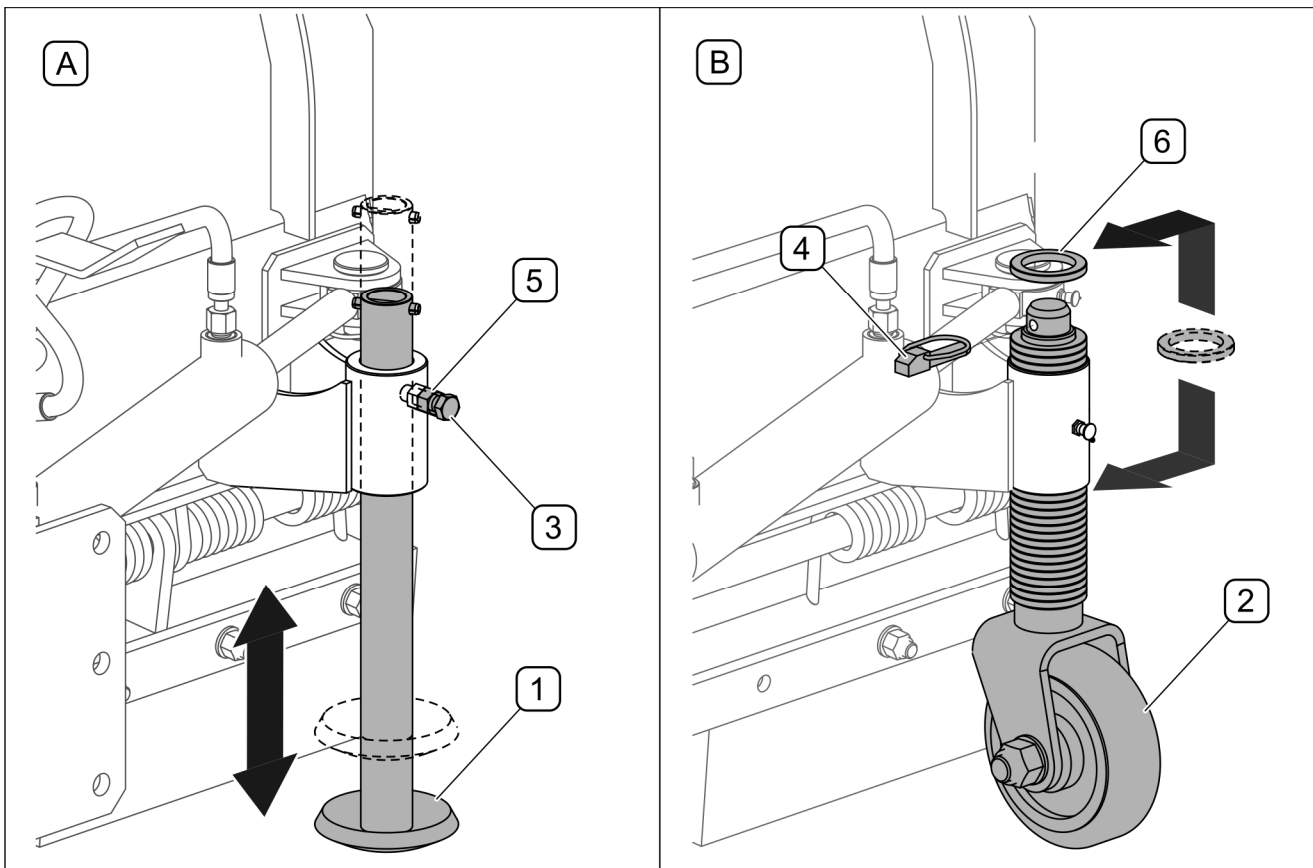

FIGURE 4.9 Working height adjustment
In the snowploughs equipped with slides (A), the working height adjustment (FIGURE 4.9) is performed by unlocking nut (5) and bolt (3) and proper extension or withdrawal of slide (1) in guide. The right and left slide should be extended to the same height. Adjustment of the left and right slide is carried out in the same way.
Optionally, the plough can be equipped with wheels (B) (FIGURE 4.9). Wheel (B) height is adjusted with the use of 10 mm-high spacer washers. In order to lift wheel (1), take out cotter